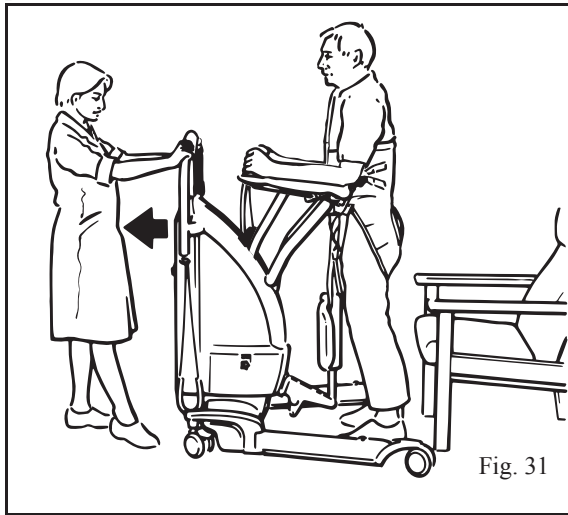

Fig. 31
8. When the patient is standing confidently release the brakes and pull the lift slightly away from the patient until the Proactive Pad is clear of the patients legs. (See Fig 31)